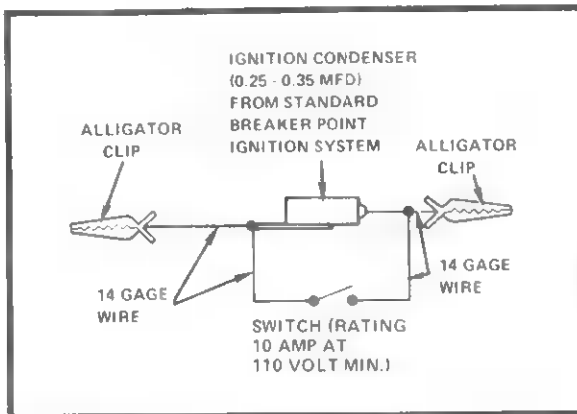

Figure 1 — Ignition Test Jumper
Make up ■ test jumper as shown in Figure 1 below. It is important to use only this test jumper when making these checks. Solid wire jumpers will not work for the quick checks.
- b. Unplug connector at **TFI Module**. In the harness side of the connector, connect the special test jumper (Figure 1) between ground and the **DG/Y** lead. Use a straight pin in connector socket hole to make contact.